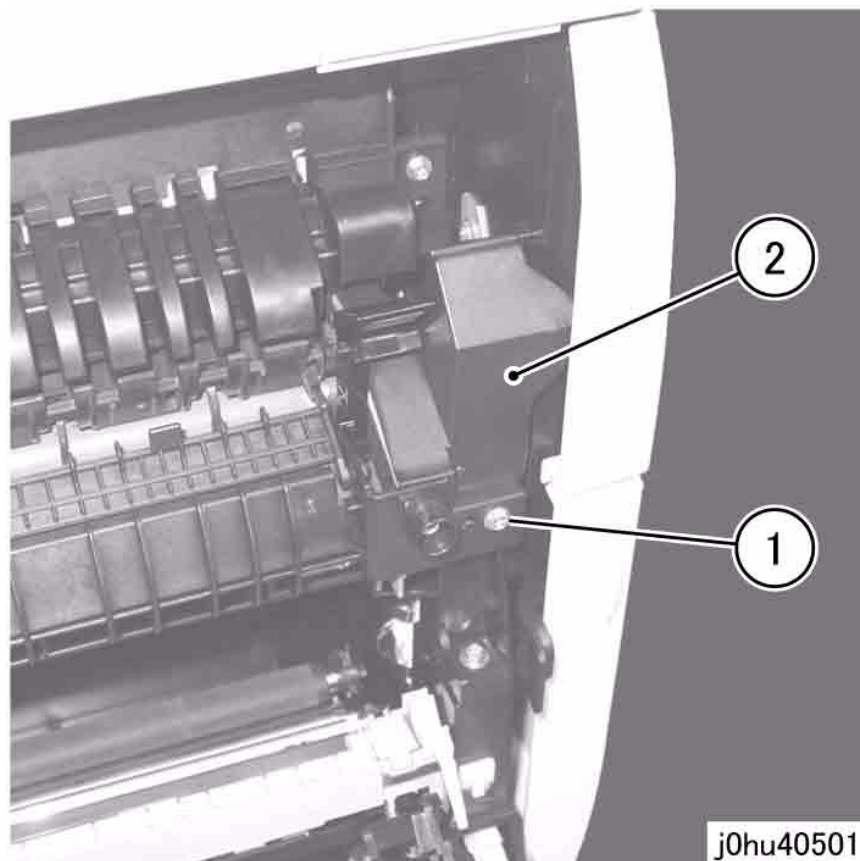

Figure 1 Remove Connector Cover
2. Remove the Connector Cover (Figure 1).